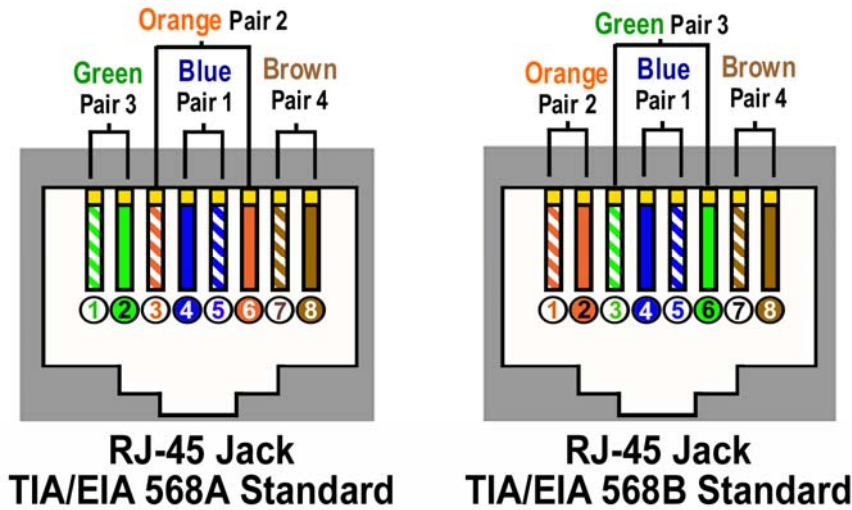

Fig. 1
The correct wiring schemes for the CATx cable are standard EIA/TIA 568A and 568B (Fig. 1).
4. Untwist the wires and fan them out individually. Arrange the wires into the correct color scheme. Note that each of the wires is either a solid color, or a white wire with a colored stripe. The colors are green, orange, blue, and brown. The colors need to be in the order shown in Fig. 1 (either 568A, or 568B).